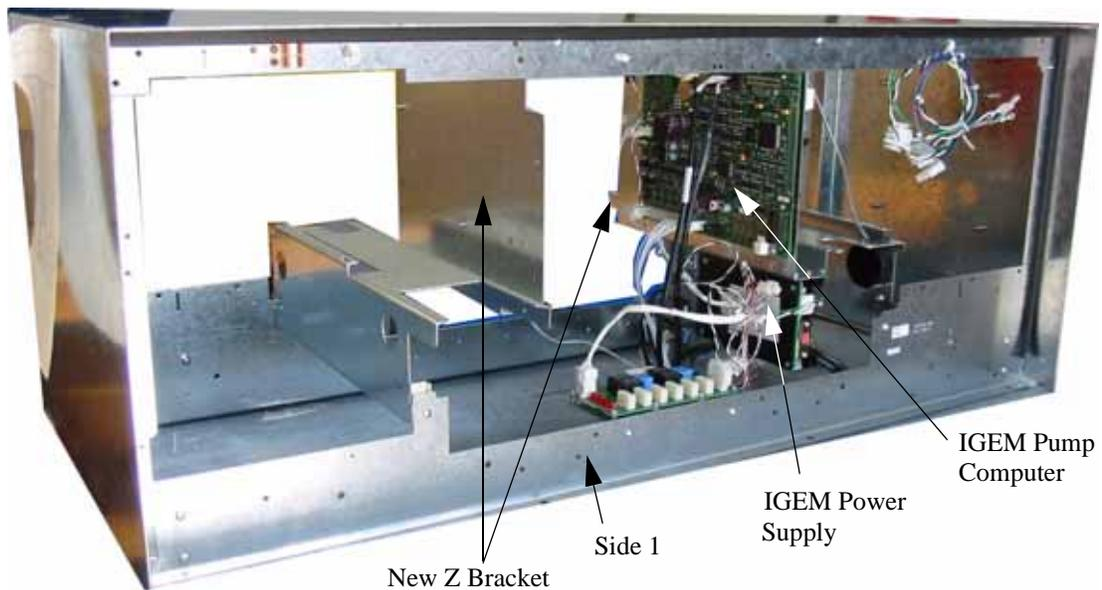

Figure 2-5 IGEM Electronics Head
4. Re-install the IGEM pump computer that was removed earlier. See Figure 2-5.